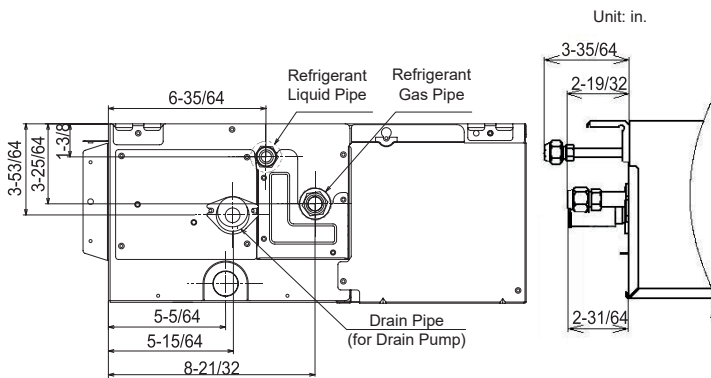

Fig. 5.1 Piping Connection Points
(1) Piping connection points are shown in figures 5.1 and 5.2.